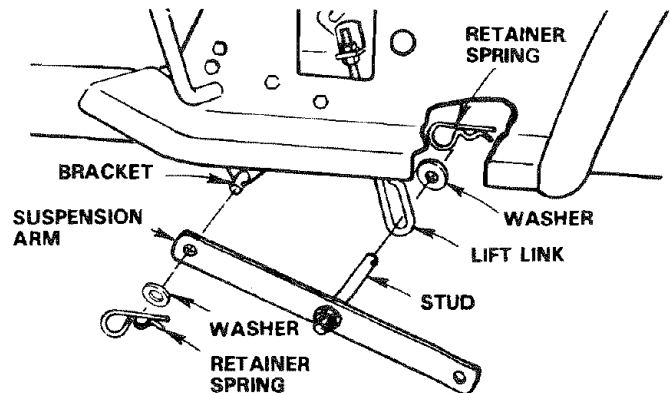

FIGURE 8
- Slide studs through lift links on both sides of tractor (Fig. 8). Retain with washers and retainer springs found in bag of parts.
- Place the suspension arms on brackets on both sides of the frame (Fig. 8). Retain with washers and retainer springs found in bag of parts.
BEFORE DRIVING THE TRACTOR, INSTALL MOWER OR REMOVE FRONT MOWER SUSPENSION ARM (FIG. 8).